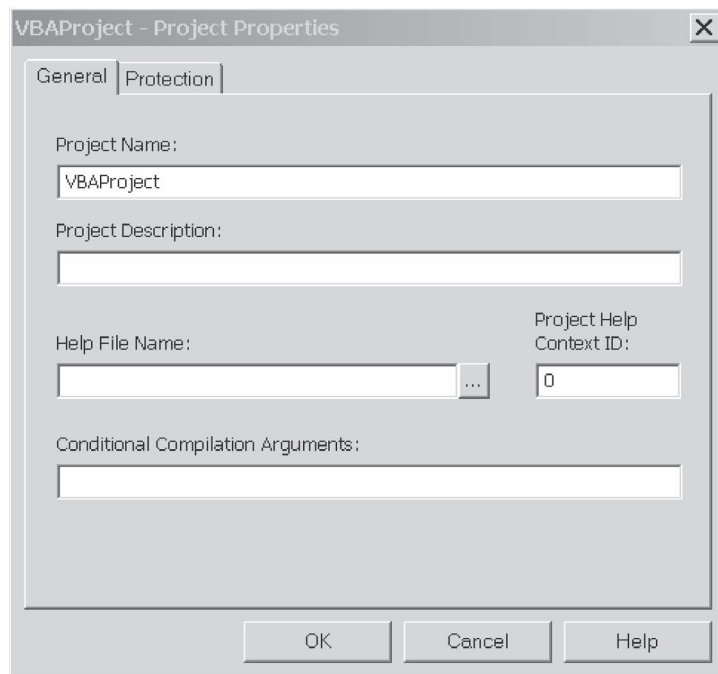

Figure A-4: Setting workbook properties.
*Step 2.* Right-click on the workbook in the Visual Base Explorer. In the dialog window (Figure A-4) add a project name. This is the name that will appear in the menu when it is added. Click on the **Protection** tab and enter the required information to prevent a user from viewing it. Incidentally, a workbook can also be protected in this way. This is not the same as the **Tools | Protection** option in the workbook.